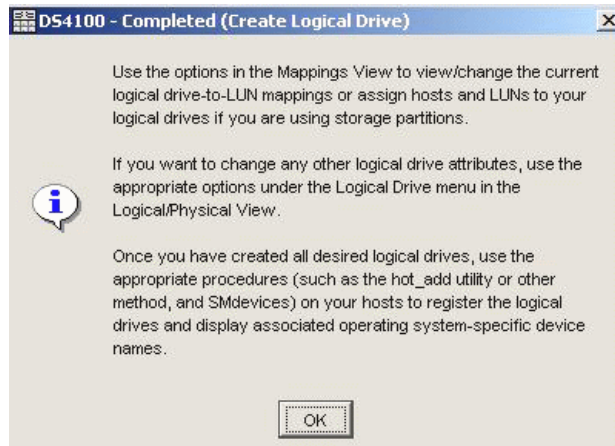

Figure 9-44 Completed (Create Logical Drive) window
13. Click **No**. You do not want to create any additional LUNs at this time. Next, you will see a window similar to Figure 9-44.